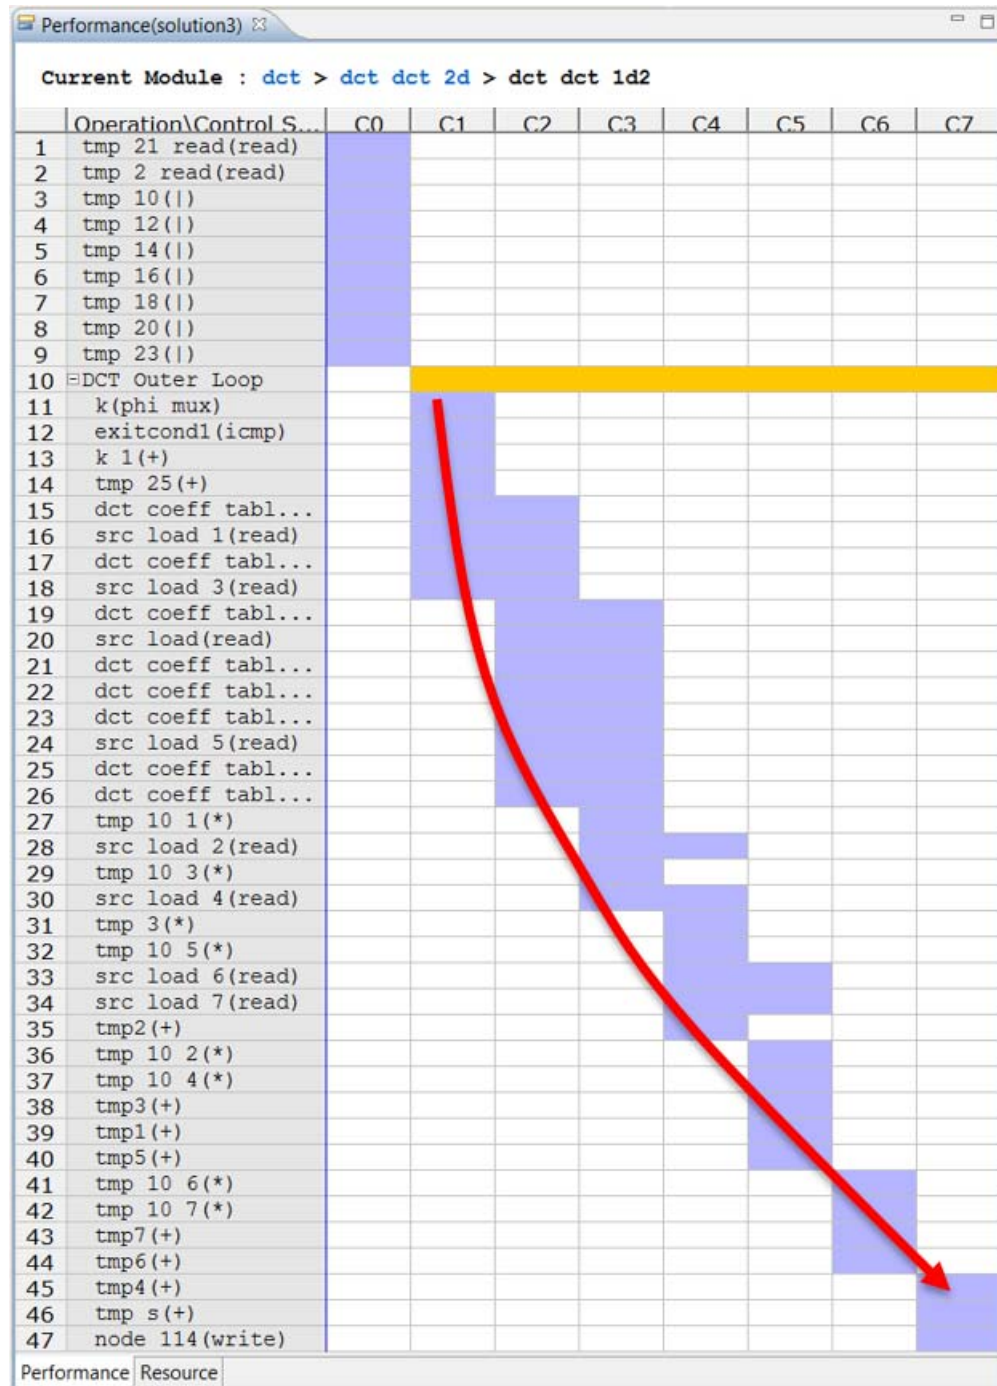

Figure 6-23: Analysis of `dct_1d RD_Loop_Row`
13. Expand the `DCT_Outer_Loop` to see the view shown in Figure 6-23.
Figure 6-23 shows a very different view from the earlier loop schedules (which had only a few cycles of latency). The schedule shows a long drift from input to output (as shown by the red arrow).
Figure 6-23 shows the analysis of `dct_1d RD_Loop_Row`.